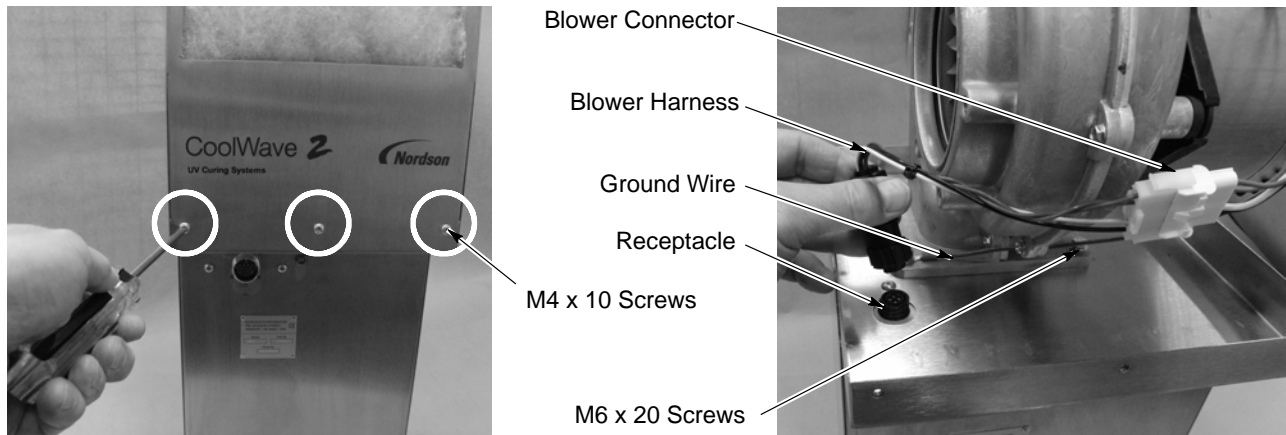

Figure 6-11 Removing Blower Cover
1. See Figure 6-11. Remove the blower cover by removing the 6 M4 x 10 Philips head screws (three front and three rear). Set the blower cover aside.